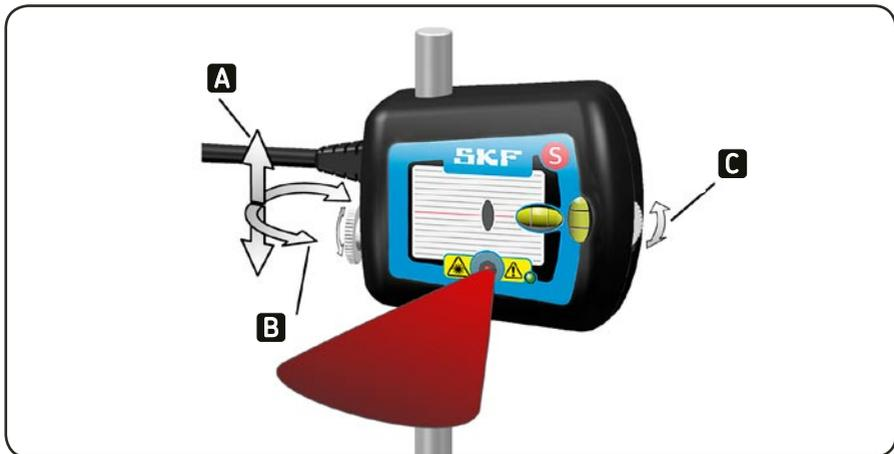

Fig. 12. Adjustment mechanism
c) For coarse adjustment release the measuring unit by unlocking the knob on the side of the unit (fig. 12). This allows the measuring unit to slide up and down the rod at the same time as it can swivel freely. For the fine adjustment in height use the adjustment wheels on the measuring units.